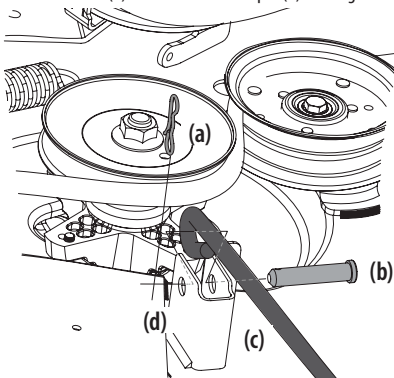

Figure 45
- b. Remove the third bow-tie pin (a) from the clevis pin (b) that secures the front deck control rod (c) to the front deck lift bracket (d). Remove the clevis pin (b). See Figure 45.